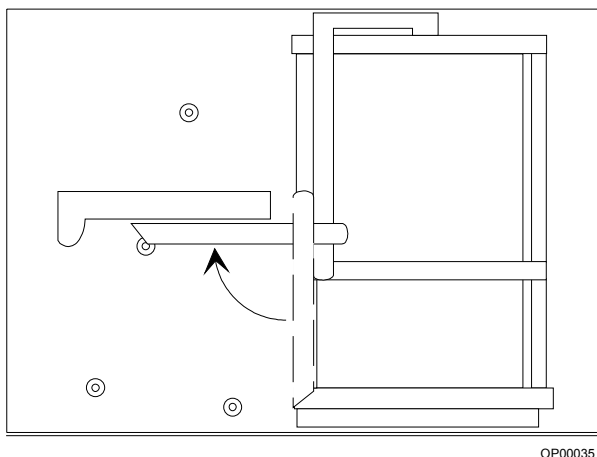

Figure 10-10. Reseating the Breathing System
2. Swing the breathing system locking lever into its lock position. See Figure 10-10.